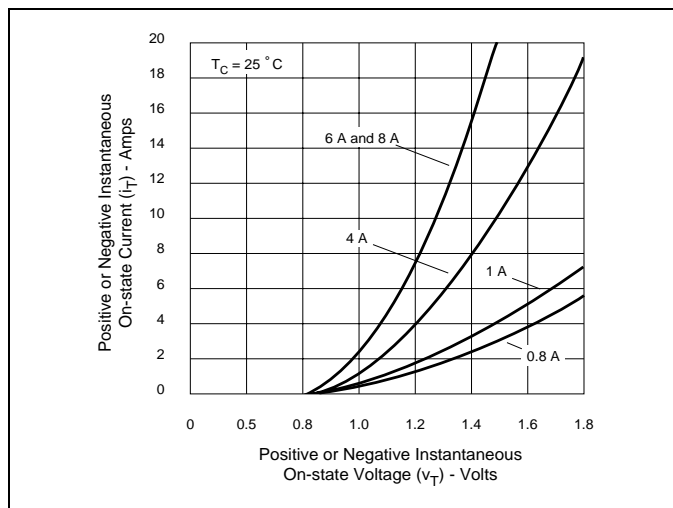

Figure E1.4 On-state Current versus On-state Voltage (Typical)
- See Figure E1.4 for  $i_T$  versus  $v_T$ .